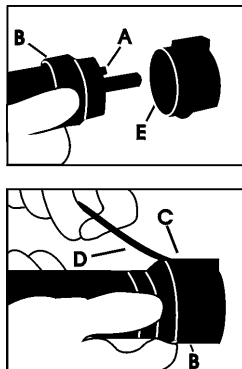

Fig. 3
4. Check that all the components of the torch are present and correctly fitted and connect the torch fitting to the connector on the generator as shown in figure 3.